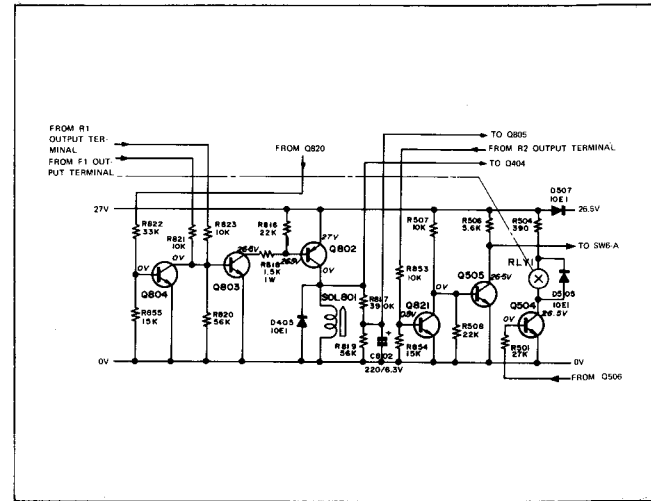

Figure 26
■ PLUNGER DRIVE CIRCUIT (See Figure 26)